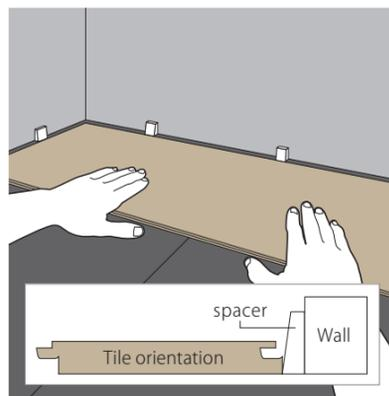

Figure 1
- 3) Begin by laying the first row in the corner of the room on your left hand side as you are looking at the wall. Always work from left to right and with the tongue towards yourself. (Figure 1)